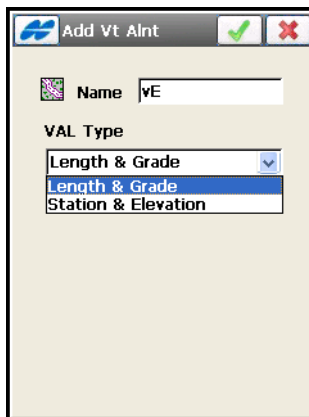

Figure 7-15. Add Vertical Alignment
- **Add** – opens the *Add Vt Alnt* screen (Figure 7-15 on page 7-17) to add a new vertical alignment.
Tap the **Add** button on the *Vertical Alignment* screen (Figure 7-15). The *Add Vt Alnt* screen selects a method of creating this alignment and sets the name of the new vertical alignment.